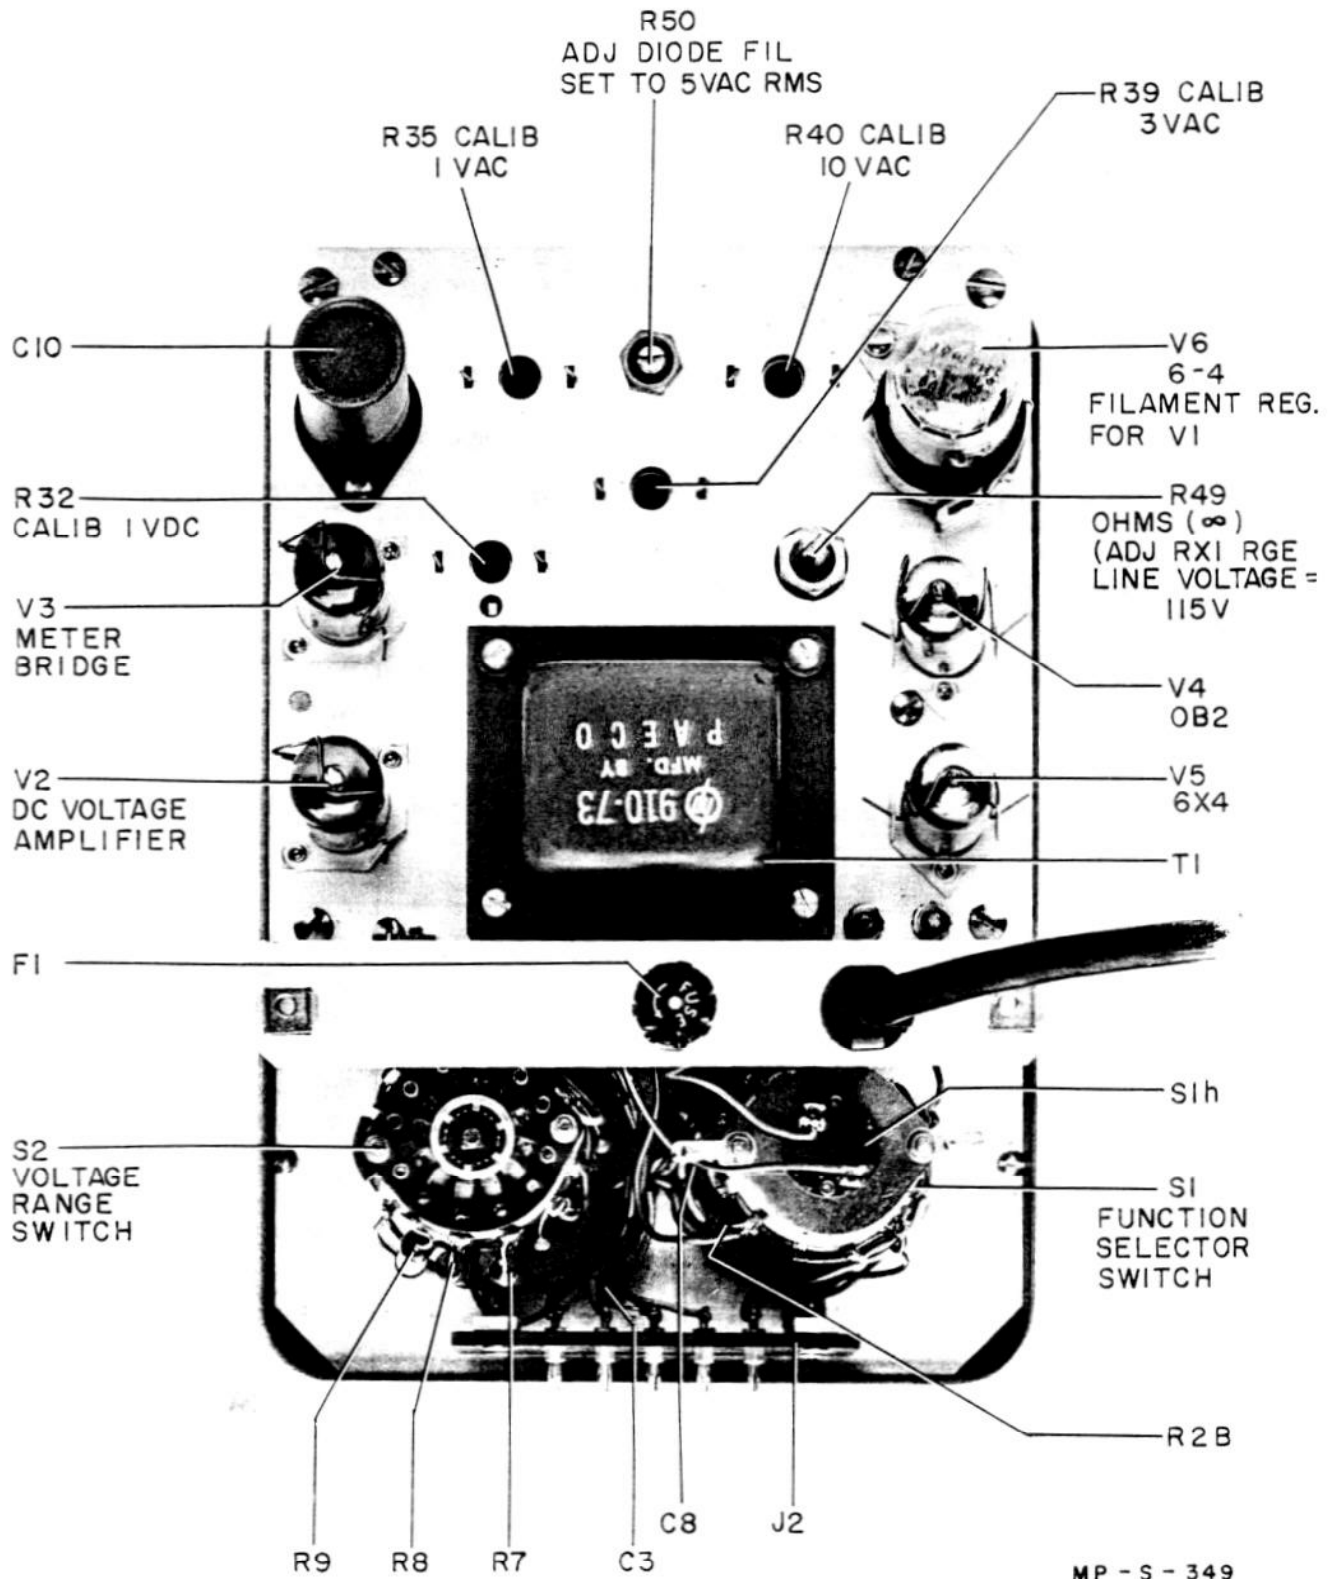

Figure 4-2. Rear View of Model 410B Chassis Removed from Instrument Case
- e. Apply exactly 1 volt d-c to the d-c test leads. This 1 volt value can be obtained using a battery and potentiometer arrangement. The voltage applied to the voltmeter should be monitored and adjusted using the precision d-c meter described earlier. With exactly 1 volt applied to the multi-meter the meter pointer should indicate an exact full-scale reading on the uppermost scale. If necessary, adjust R32 through the back of the instrument to make the meter read exactly full-scale. R32 is identified in Figure 4-2 and by appropriate markings on the back of the instrument.